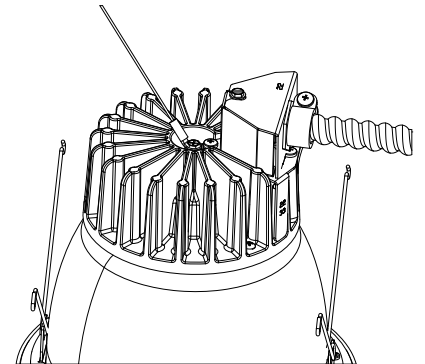

Figure 3
3. Tighten screw to secure. See Figure 3.